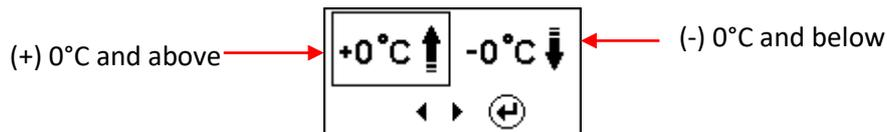

Fig. 20
18. This Analyser will also take into consideration the temperature of the battery when it detects that the battery condition is marginal (SOC below 75%) and it will prompt you with the display as shown (Fig. 20) below: